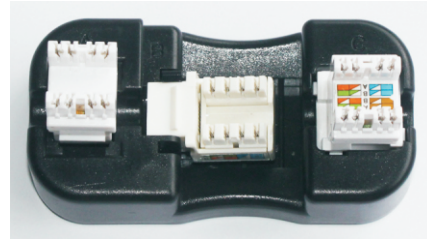

Figure 3- Keystone Jacks in Punch holder
1. Put the Keystone Jack into the punch holder in the correct position.(Figure 3)